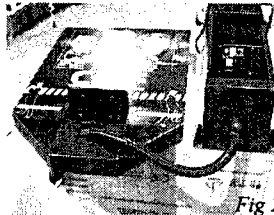

Fig 2
5. Insert the Flexipipe into the hole located at the front end of the Floor. (Fig 2)